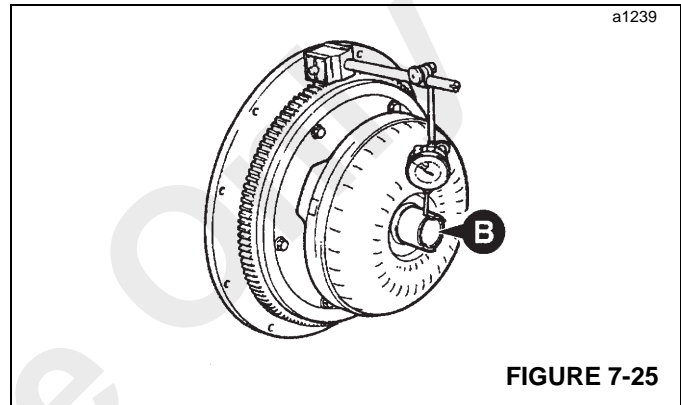

FIGURE 7-25
3. Apply Loctite® 243 to the threads of four new special drive plate retaining bolts (2), attaching the drive plate to the torque converter. Tighten the bolts to 40 Nm (30 lb-ft). Remove the alignment tool and install the remaining two bolts. Tighten to a torque of 40 Nm (30 lb-ft).
4. Locate the torque converter and drive plate assembly on the flywheel. Install three bolts to attach the drive plate to the flywheel. Check the converter run-out as shown in B of Figure 7-25, which should not exceed 0.38 mm (0.015 in). Adjust as necessary.